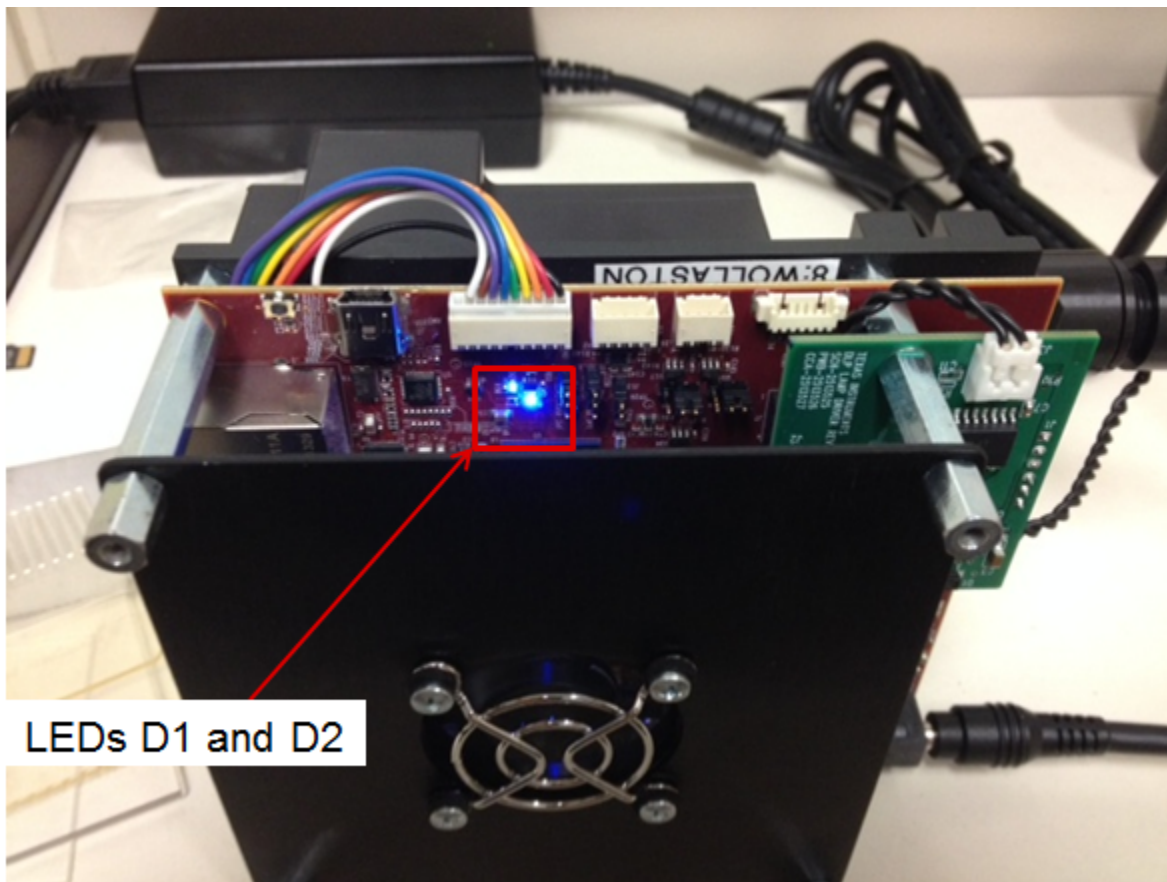

Figure C-3. LED Location
5. One or both of two blue LEDs (D1 and D2) as shown in Figure C-3, will flash on and off erratically - this indicates the eMMC is being programmed.